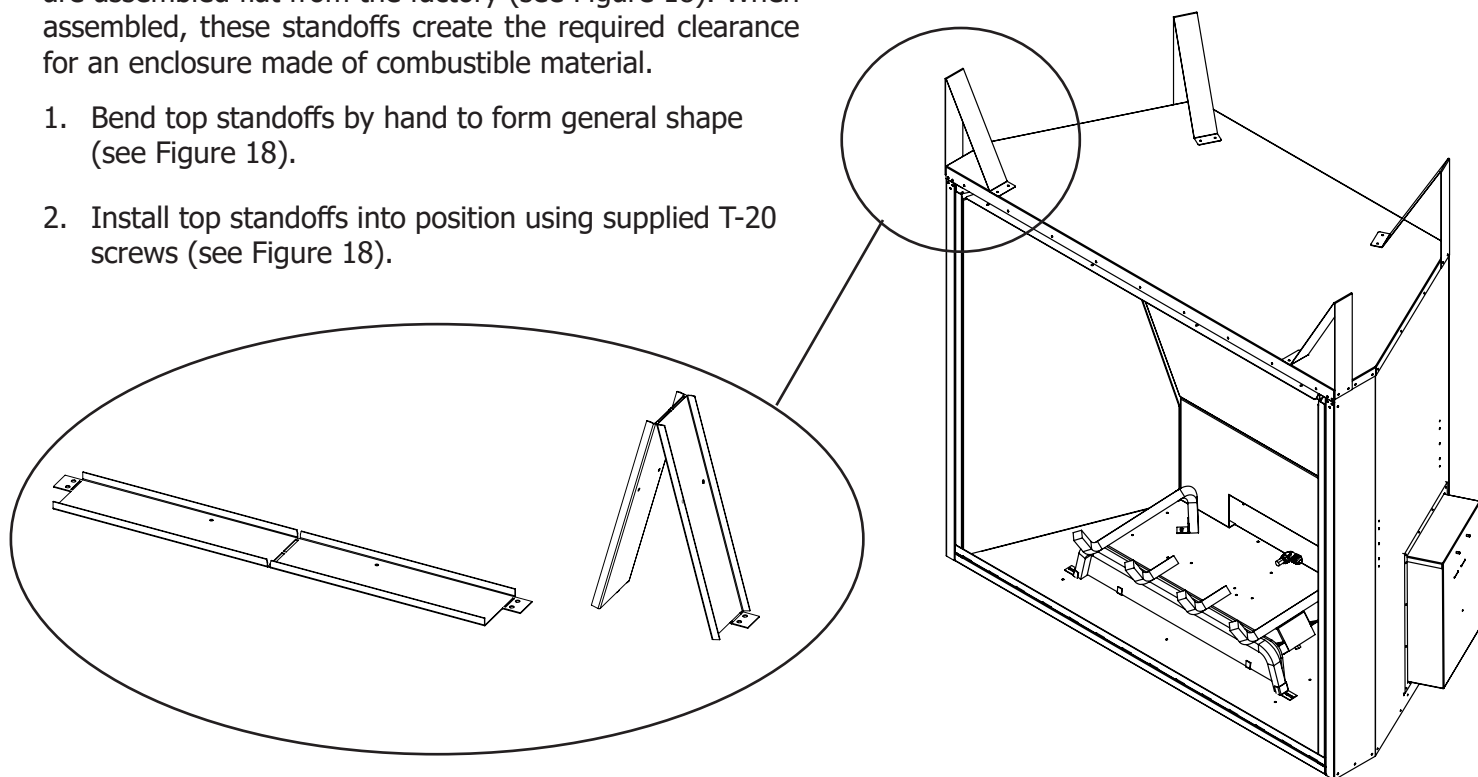

Figure 18: Top Standoffs
There are four (4) standoffs on top of the fireplace that are assembled flat from the factory (see Figure 18). When assembled, these standoffs create the required clearance for an enclosure made of combustible material.
1. Bend top standoffs by hand to form general shape (see Figure 18).
2. Install top standoffs into position using supplied T-20 screws (see Figure 18).